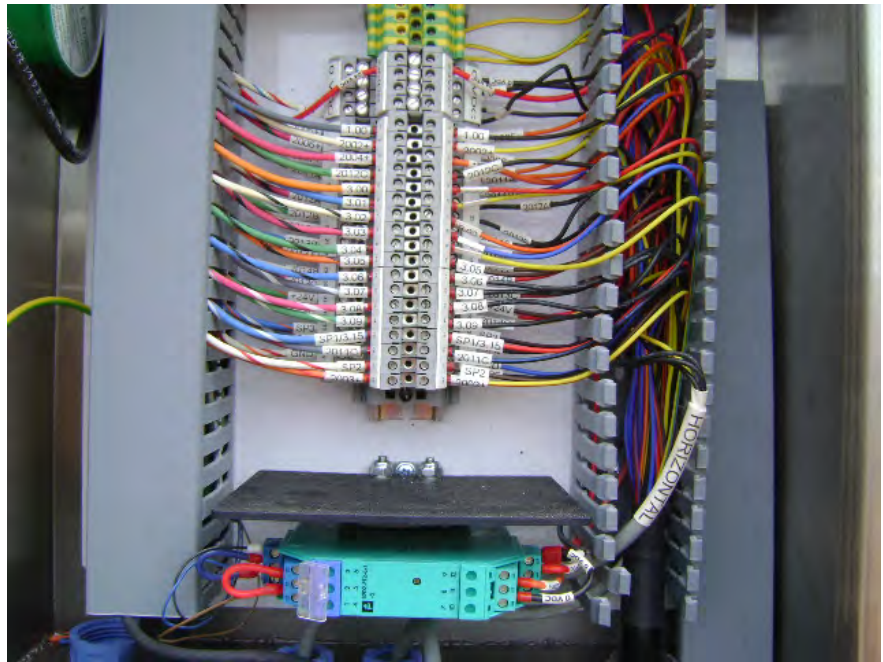

Figure 1
3. Open the arm junction box (Figure 1) and locate the horizontal extend/retract valve coil wires.